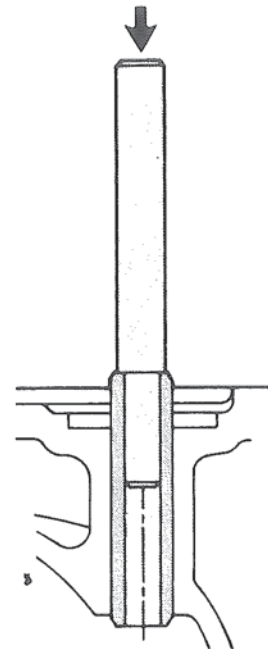

Figure 21. Removing Valve Guide.
A. Press old guides out from gasket side, use Special Tool No. MH061066. Figure 21.